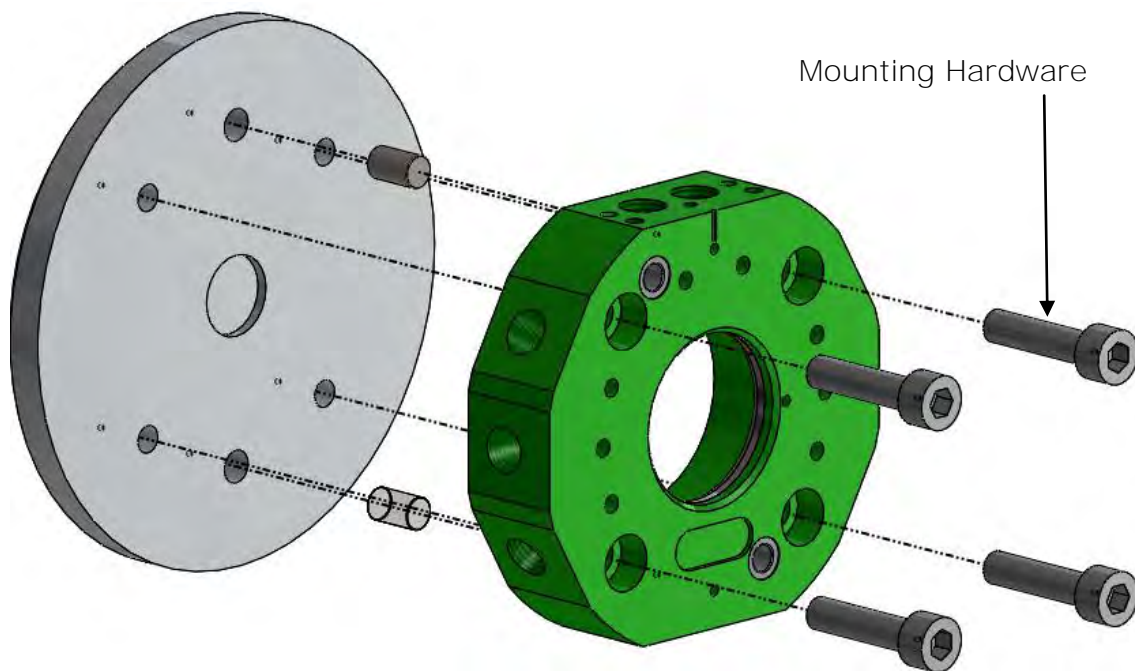

Figure 5.2-3. ET63 Tool Adaptor Installation (Bolt Top Down)
1. Locate the Tool Adaptor to the tool plate utilizing either the locating hub and one (1) M6 locating dowel, or two (2) M6 locating dowels (Figure 5.2-3).